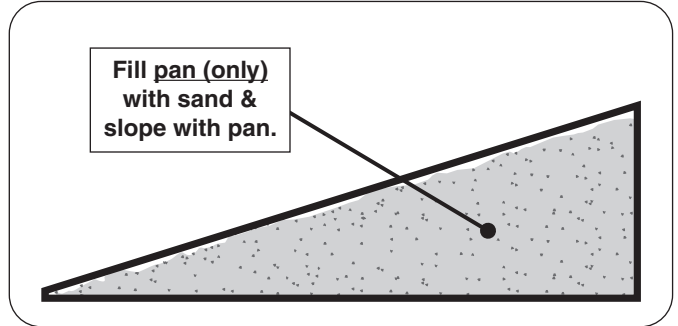

Fig. 12-2 Sand detail
2. **Slope the sand at the same angle as the burner pan.** This is important to ensure quiet lighting and even flame distribution. See Fig. 12-2.